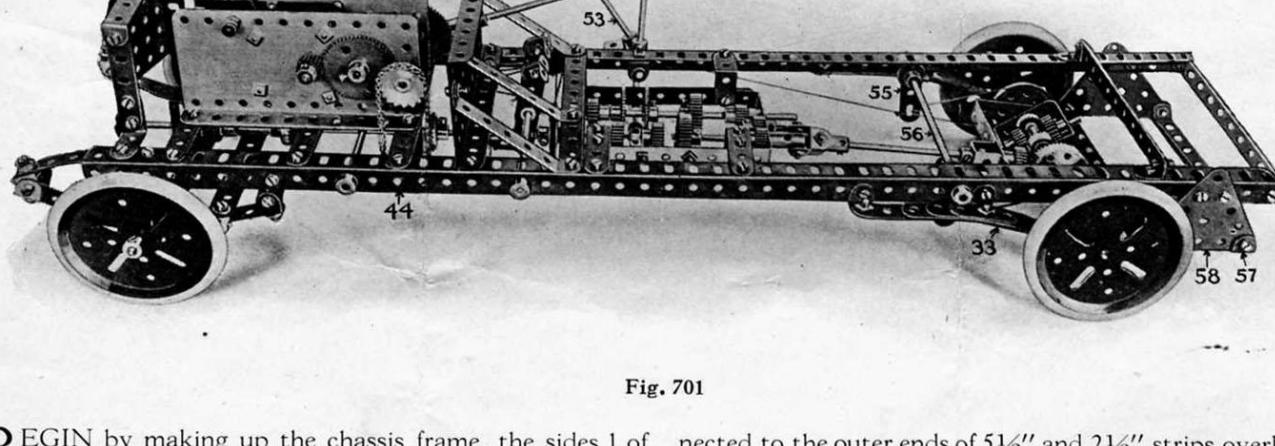
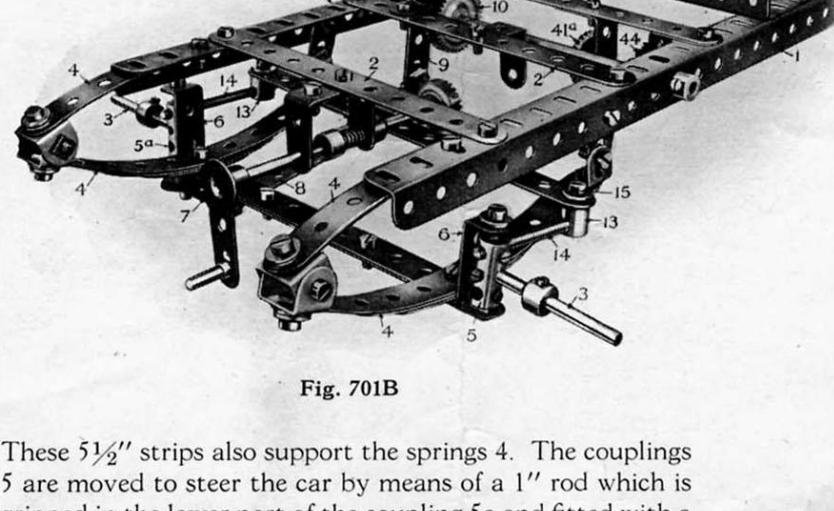
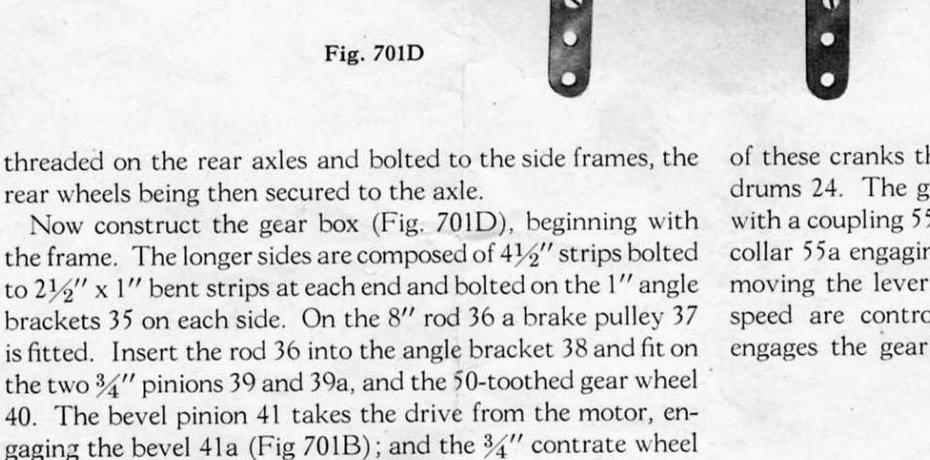
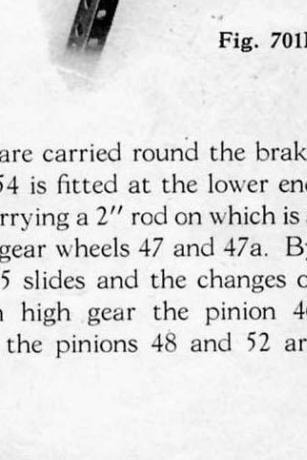

Fig. 701
Fig. 701B
Fig. 701D
Fig. 701E
**B**EGIN by making up the chassis frame, the sides 1 of which are  $2\frac{1}{2}$ " angle girders connected by  $5\frac{1}{2}$ " strips 2. The front steering axles 3 and their springs 4 may then be built on to the frame as shown in Fig. 701B. The stub axles 3 are fitted into the couplings 5 and swivel in 1" reversed angle brackets 6 which are bolted to two overlapped  $5\frac{1}{2}$ " strips in order to give a projecting end
Now construct the gear box (Fig. 701D), beginning with the frame. The longer sides are composed of  $4\frac{1}{2}$ " strips bolted to  $2\frac{1}{2}$ " x 1" bent strips at each end and bolted on the 1" angle brackets 35 on each side. On the 8" rod 36 a brake pulley 37 is fitted. Insert the rod 36 into the angle bracket 38 and fit on the two  $\frac{3}{4}$ " pinions 39 and 39a, and the 50-toothed gear wheel 40. The bevel pinion 41 takes the drive from the motor, engaging the bevel 41a (Fig. 701B); and the  $\frac{3}{4}$ " contrate wheel 42 is driven from the starting handle. The clutch mechanism 43 is merely ornamental. The bevels 41, 41a, are driven by the sprocket 44 from the motor, see Figs. 701 and 701A. The 2" rods for the sprocket 44 and bevel 41a are mounted in the end holes of 1" angle brackets secured to one of the  $5\frac{1}{2}$ " cross strips.
of these cranks the brake cords are carried round the brake drums 24. The gear-shift lever 54 is fitted at the lower end with a coupling 55 (Fig. 701E) carrying a 2" rod on which is a collar 55a engaging between the gear wheels 47 and 47a. By moving the lever 54 the shaft 45 slides and the changes of speed are controlled. When in high gear the pinion 46 engages the gear wheel 40 and the pinions 48 and 52 are
Then bolt the brake lever 53 and gear-shaft lever 54 (Fig. 701E), to the side frame. The brake lever 53 (Fig. 701), is connected by a cord to a crank 55 nipped on an axle rod 56 which carries a similar crank at the other side. From the ends